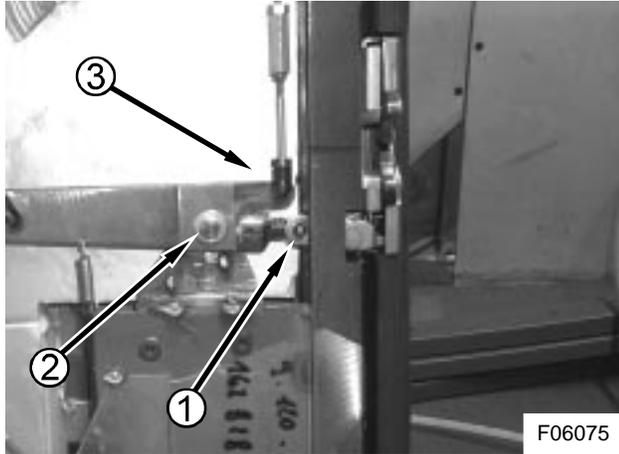

Figure 14: Lever, upper and lower connections to rotary latches.
- 1) Install insulation panel VH 10785613 to surround the door lock housing (see Figure 21). Check that the diameter of the main pivot hole of lever VH 10779707 is 8.1 mm (see 2, Figure 14). Rectify if necessary. Connect the lower actuating rod of lever VH 10779707 to the operating lever of the lower rotary latch using a snap-on rod end (see 1, Figure 14).
- 2) Install lever VH10779707 on its pivot shaft using washers as required (see 2, Figure 14). Secure with a new self-locking M6 nut. Tighten the nut for minimum endplay but allow the lever to operate without binding.
- 3) Connect push/pull rod VH 10781482 to the upper actuating arm of the lever using a snap-on rod end (see 3, Figure 14).